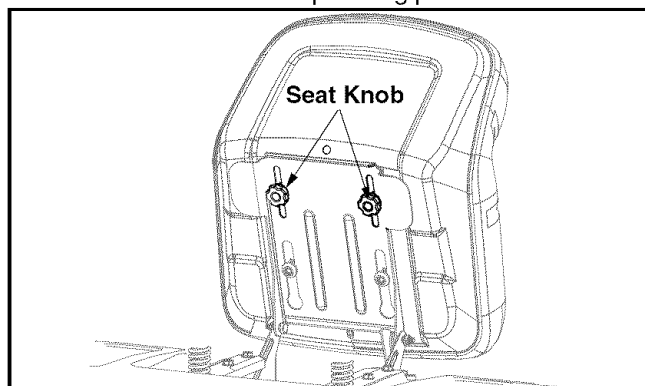

Figure 12
1. Flip the seat up as shown in Figure 12.
2. Loosen the two seat adjustment knobs located under the seat. See Figure 12.